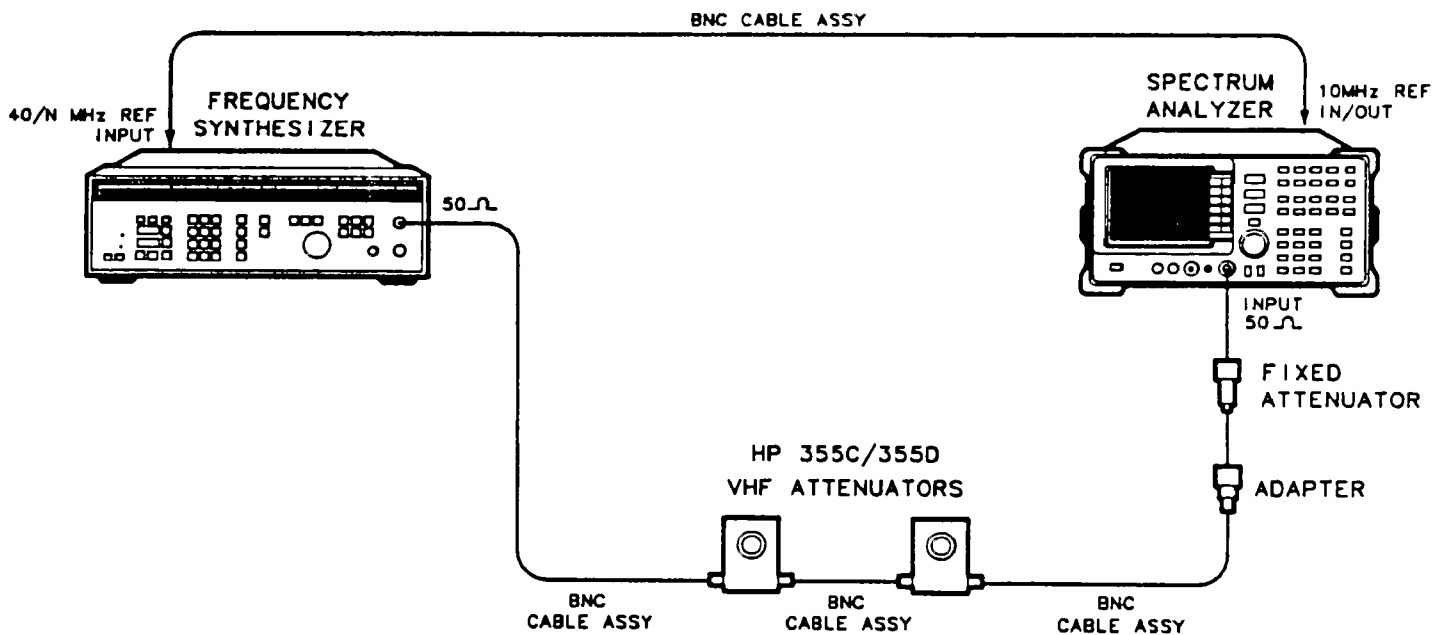

Figure 3-7. IF Gain Uncertainty Test Setup
1. Connect the equipment as shown in Figure 3-7. The HP 8562A/B Spectrum Analyzer provides the frequency reference for the HP 3335A.